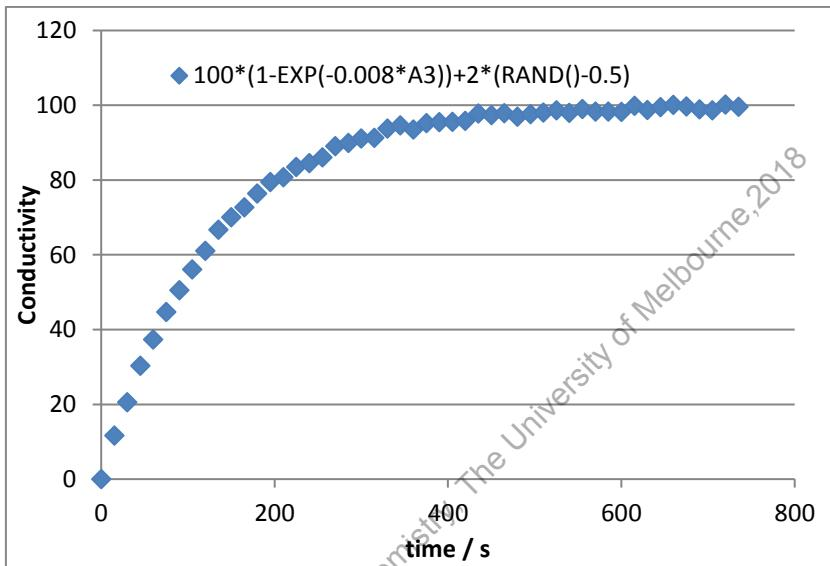

Figure 9.5: The graph of  $\kappa_t$  ( $\mu\text{Scm}^{-1}$ ) versus Time  $t$  (s) for a first order reaction.
**Constant** $\times$ [Product] – where the **Constant** is set to 100, for convenience. A plot of the data is shown in Fig. 9.5.